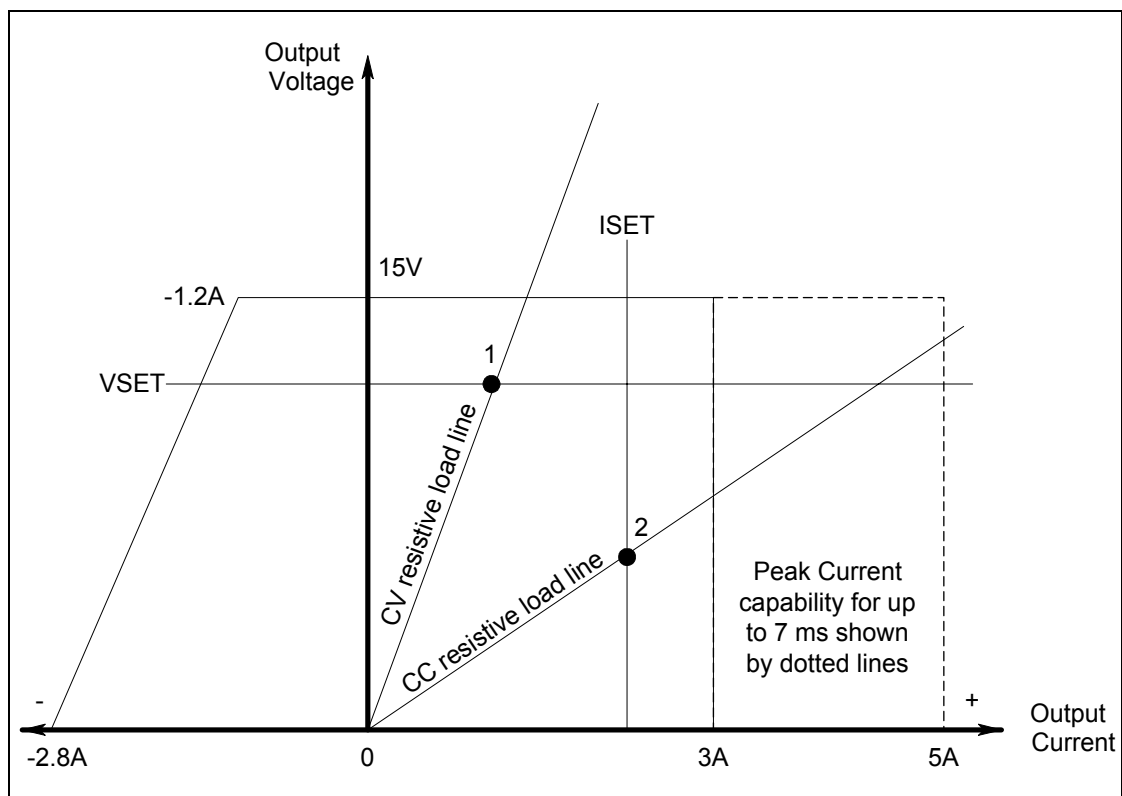

Figure 2-1. Dc Source Output Characteristic
The dc source is capable of providing a constant dc output of 15 volts with up to 3 amperes of current. It is capable of sourcing peak currents of up to 5 amperes -- provided the peak current pulse does not exceed 7 milliseconds, and the *average* current requirement does not exceed 3 amperes. The peak current capability is illustrated by the dotted line in Figure 2-1.
The dc source can operate in either constant voltage (CV) or constant current (CC) over the rated output voltage and current. Figure 2-1 shows a single range – two quadrant capability. This means that the dc source is capable of sourcing as well as sinking current over the output voltage range from zero volts to the rated voltage. This negative current sinking capability provides fast downprogramming of the output of the dc source. The negative current is not programmable, and varies linearly from 1.2 amperes at the full rated voltage, to 2.8 amperes at zero output voltage.
The operating point of the unit is determined by the voltage setting, current setting, and the load resistance. In figure 2-1, operating point 1 is defined by the load line traversing the positive operating quadrant in the constant voltage region. Operating point 2 is defined by the load line traversing the positive operating quadrant in the constant current region.